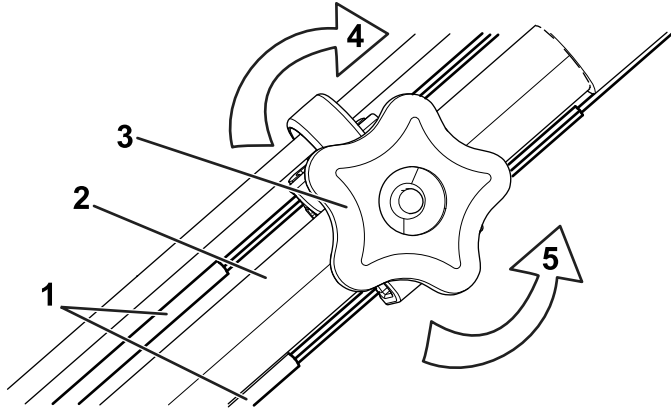

Figure 30
1. Turn the adjustment knob counterclockwise to loosen the cable adjustment (Figure 30).
2. Adjust the tension on the cables (Figure 30) by pulling them back or pushing them forward and holding them in that position.